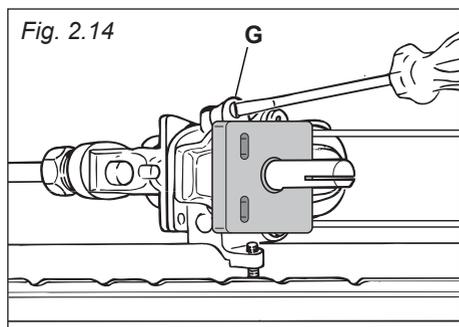

Fig. 2.14
- remove the knob and unscrew the by-pass screw “G” (fig. 2.14) about three times by passing a small flat screwdriver (Ø 3 mm blade, 100 mm length) through the panel opening;
- after having removed the knob again and being very careful not to turn the tap rod, slowly screw the by-pass screws “G” (fig. 2.14) until you obtain a flame of 3-4 mm in height.